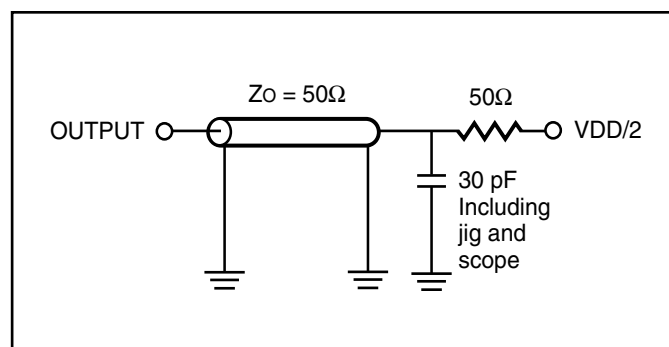

Figure 1.
1. Test conditions assume signal transition times of 3 ns or less, timing reference levels of 1.5V, input pulse levels of 0V to 3.0V and output loading specified in Figure 1.